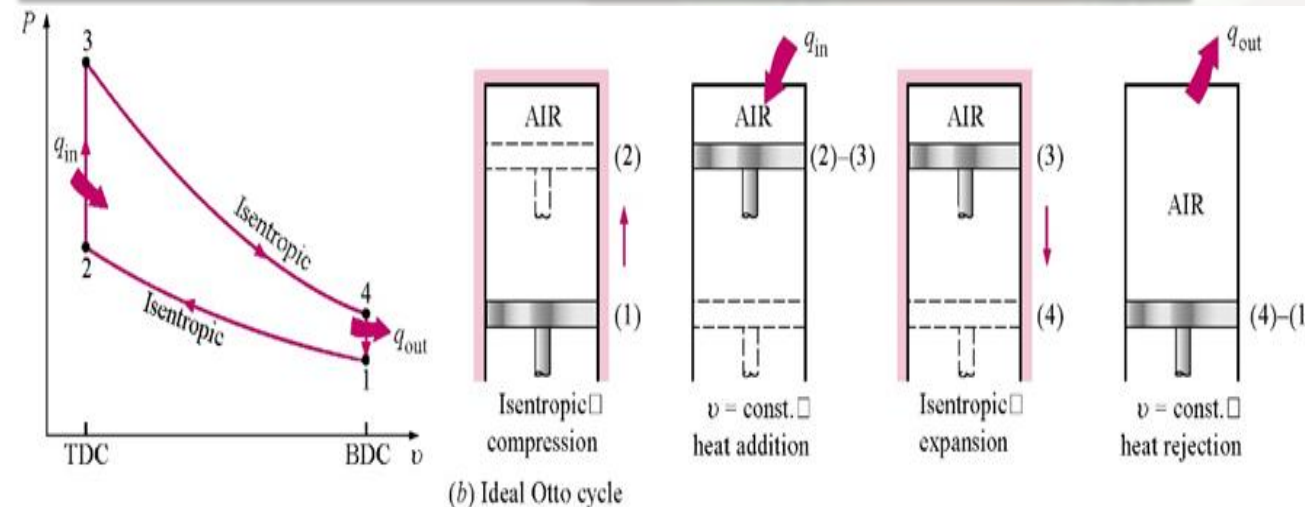

Fig 6 **Ideal** Otto cycle
- The $P - v$ diagram for an **Otto cycle** in a piston-cylinder device is shown in Fig 6.